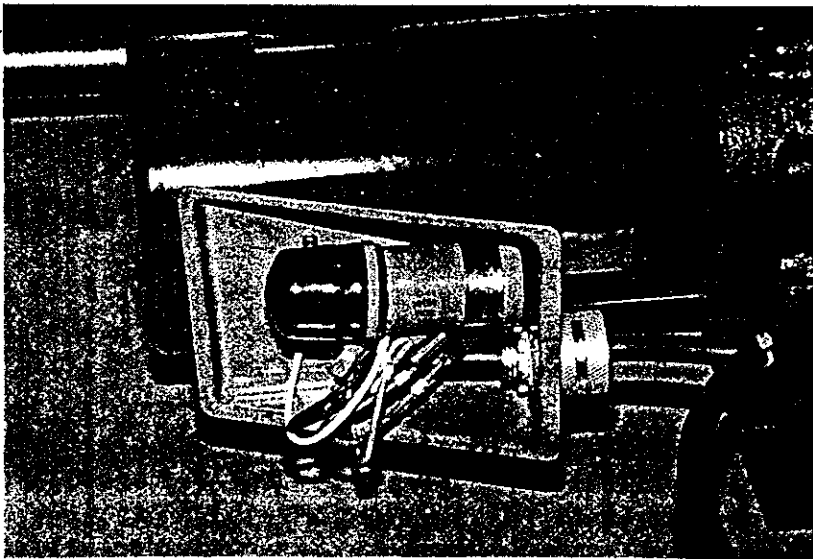

Figure 11.3.
STEP 11.3: Reconnect J1 motor connector to circuit board. If condition continues, check for shorts in all connector blocks to motor. Remove motor cover and check connections there. Be sure all wire nuts are secure before replacing cover. See Figure 11.3. If problem continues, replace motor.